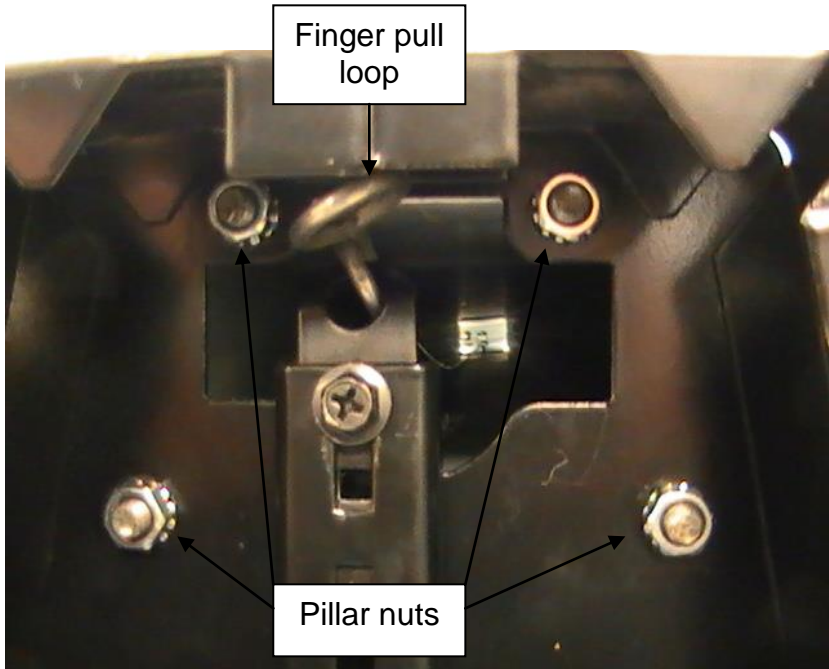

Figure 4
3. Locate the steel rod at the base of the pillar (see Figures 4, 5 & 6 on pages 8 & 9).
6. Tip the scale platform at an angle, resting the top of the pillar on any convenient support. Using the wrench provided, secure the pillar to the scale platform with the four nuts (see Figures 4 & 5 on pages 8 & 9).
7. Pull the steel rod toward the base of the scale platform by grasping the finger pull loop on the steel rod end (see Figures 4, 5 & 6 on pages 8 & 9).
8. Push the lever extension toward the pillar with your hand (see Figure 4, 5 & 6 on pages 8 & 9).